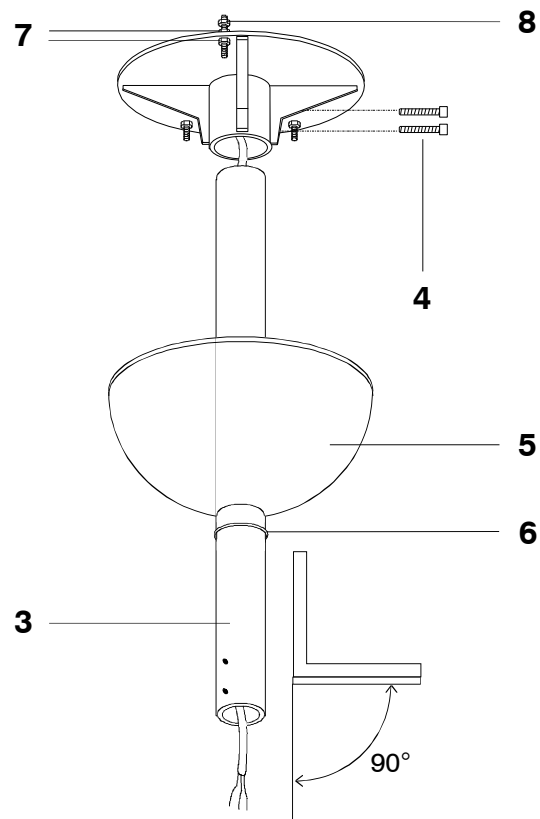

Figure 6-7
5. Assemble the pole (3) to the ceiling plate using the two provided screws (4) (Figure 6-7).
7. Check that the set is level and if necessary adjust using the adjustment nuts (7) and fix the position with the fixing nuts (8) (Figure 6-7).
8. Assemble the ceiling plate cover (5) with the ring (6).